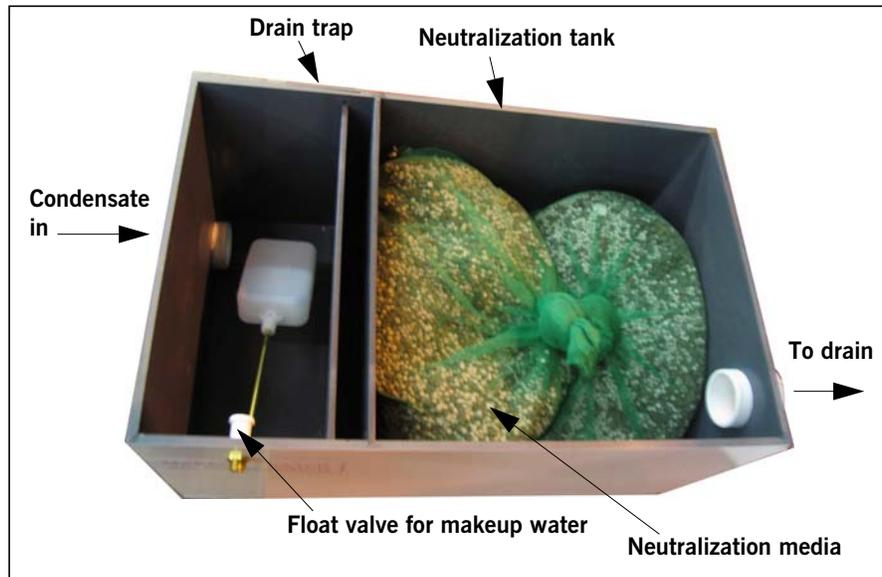

Figure 17. Combo Trap/Tank
- To install the system, assemble the tank and neutralization granulate per Figure 17. Two bags of neutralization media are sufficient to fill the tank.